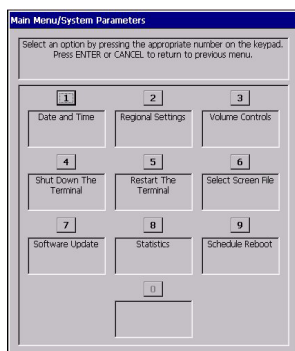

Fig. 7-7. Terminal system parameters.
3. Select the **System Parameters** option by pressing number **(5)** on the alphanumeric keypad. The **System Parameters** main menu appears, as shown in Figure 7-7.